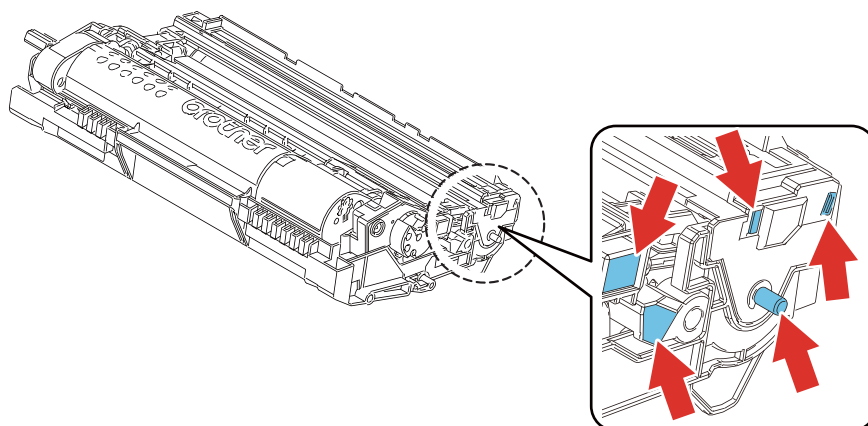

Fig. 2-13
- Clean the electrode of the drum unit. (Refer to Fig. 2-13 \(P2-56\).)